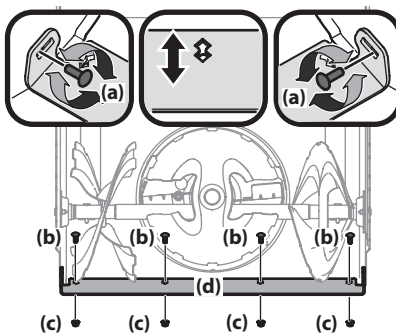

Figure 2-41
- Loosen rear skid shoe bolts (a) on both sides of auger housing and remove carriage bolts (b) and hex nuts (c) which attach shave plate (d) to the bottom of the auger housing. See Figure 2-41.
- Adjust the shave plate to one of 2 mounting positions. Reinstall and tighten the carriage bolts (b) and hex nuts (c) all bolts securely. See Figure 2-41.